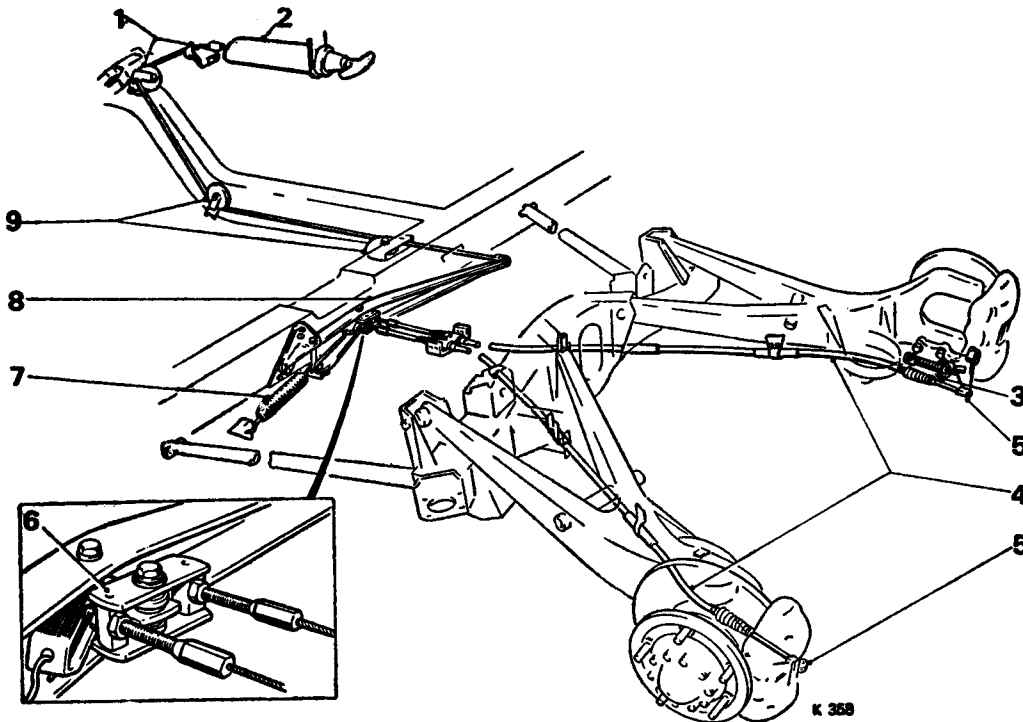

FIG. G61 HAND BRAKE LINKAGE—LATE R.H.D. CARS
Note The hand brake cable arrangement for left-hand drive cars is symmetrically opposite to that of right-hand drive cars (see Figs. G61 and G62).
2. There are four pulleys to consider when renewing the front cable (see Figs. G61 and G62).